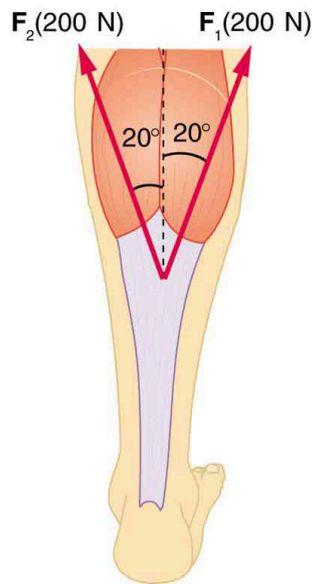

Figure 9.36 The Achilles tendon of the posterior leg serves to attach plantaris, gastrocnemius, and soleus muscles to calcaneus bone.
27. Two muscles in the back of the leg pull on the Achilles tendon as shown in Figure 9.36. What total force do they exert?